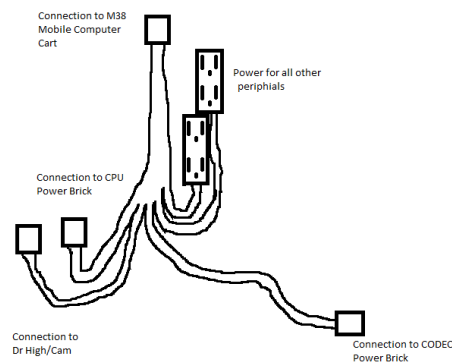

Figure 1.
3. Wrap the two double 110 outlet plug ports to the right and back up along side of the custom multi head power cord, and Velcro the base of the ports to the base of the tray. (NOTE: All Velcro attached to devices and tray must be connected the same. The hooks (smooth) side will always be on the cart or shelf. The loops (fuzzy) side will always be on the devices. (See Figure 1.)